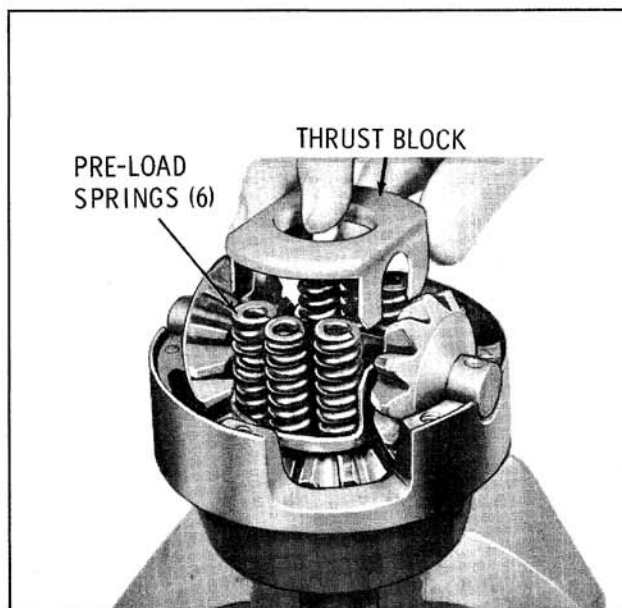

Fig. 10-43 Installing Pre-load Springs
5. Insert springs into the thrust block that is already installed into the case, then place second thrust block over springs. (Fig. 10-43)